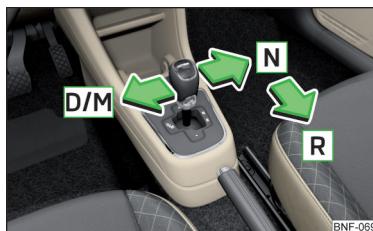

Fig. 94
The following modes can be selected with the selector lever » Fig. 94.
- Press the selector lever towards the left in the spring-tensioned position in the direction of the arrow » Fig. 94 on page 81 and insert into position **D**.